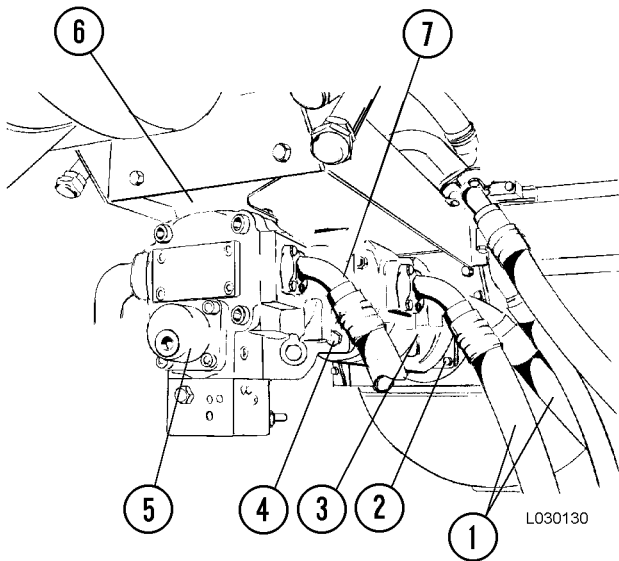

FIGURE 3-2. HYDRAULIC PUMP
5. Loosen the capscrews securing the inlet and outlet hoses (1, Figure 3-2) on the hoist pump and allow oil to drain. Remove inlet and outlet hoses. Cap or cover all lines and pump inlets and outlets to prevent contamination.
8. Remove four capscrews (2, Figure 3-2) that secure the hoist pump to the front support bracket. Remove the six capscrews that hold support bracket (6) to the pump module support. Remove support bracket.
3. Lubricate the steering pump spline shaft and align it with coupling (9). Install the hoist pump onto the steering pump. Install capscrews (10) with hardened washers and tighten the capscrews to standard torque. Raise the pumps up into position.
6. Tighten the capscrews for steering pump support bracket (6, Figure 3-2) to standard torque.